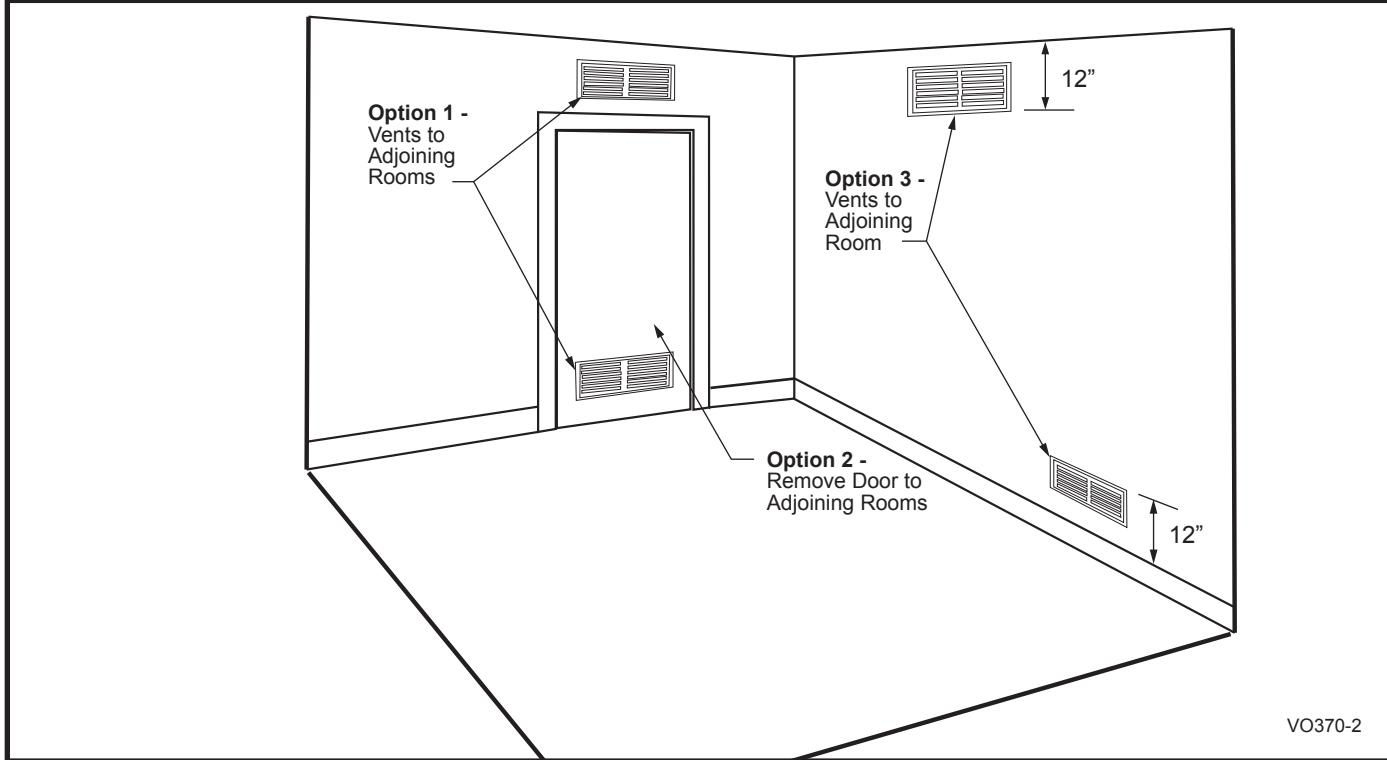

Fig. 2 Ventilation options for confined spaces.
A. Open or provide at least two ventilating grilles to an adjoining unconfined space. (Fig. 2)